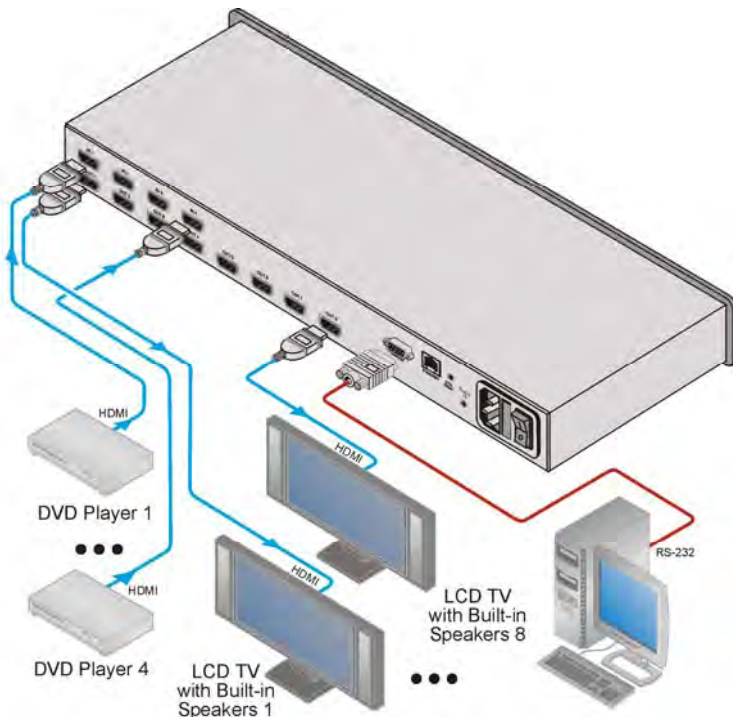

Figure 3: Connecting the VS-48H 4x8 HDMI Matrix Switcher
To connect¹ the VS-48H 4x8 HDMI Matrix Switcher as illustrated in the example in Figure 3:
4. Connect the device to the mains electricity (not shown in Figure 3).